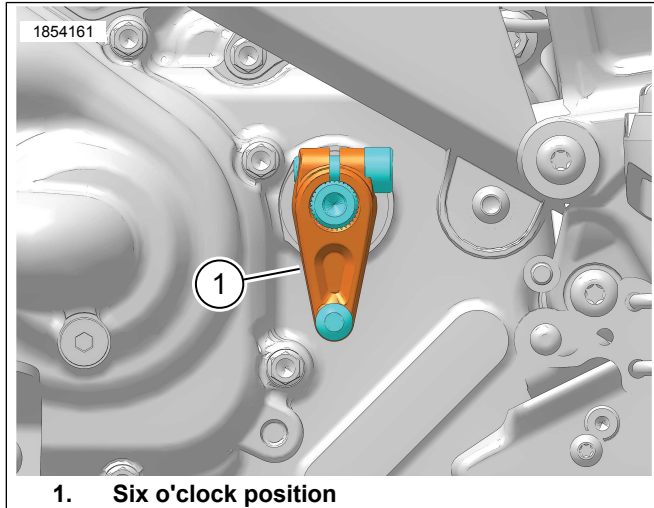

Figure 4. Correct Transmission Shift Shaft Lever Position
See Figure 4. Make sure transmission shift shaft lever is oriented at the six o'clock position (1).